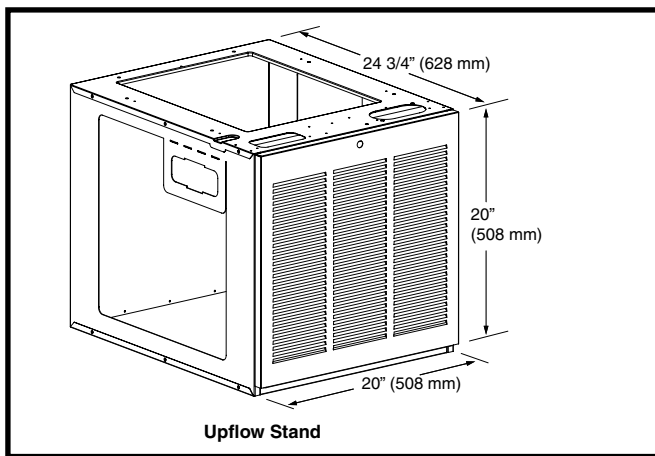

Figure 1. Optional Upflow Stand
- E7EM Models: Use a coil box with a solid door and an upflow stand (Figure 1 \(page 5\)). Part numbers can be found in the Technical Specifications Literature.
- Stand (Figure 1) will use filters provided with the unit. Remove any filters in the furnace and follow proper installation. See instructions supplied with the upflow stand for additional details.